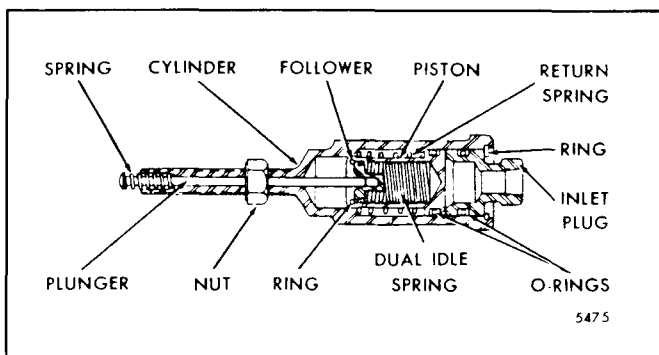

Fig. 2 - Fast Idle Air Cylinder
2. Refer to Fig. 2 and disassemble the fast idle cylinder as follows: